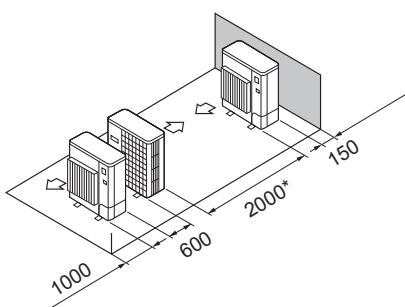

Fig. 2-17
- (5) Enkelt parallelt enhed arrangement (Fig. 2-17)